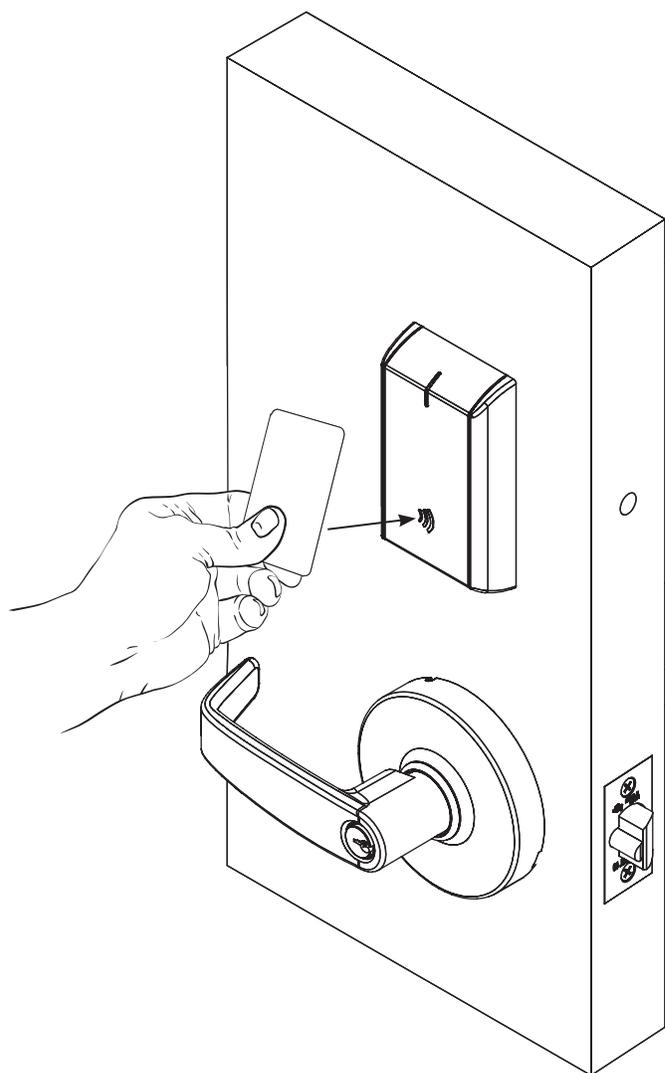

Fig. 14B
4. Present a valid credential* (Fig. 14B) to unlock outside lever; turn lever handle to ensure latch retracts.
Note: The credential should approach the inscription on the reader as indicated (Fig. 14B) to ensure the credential is read properly.